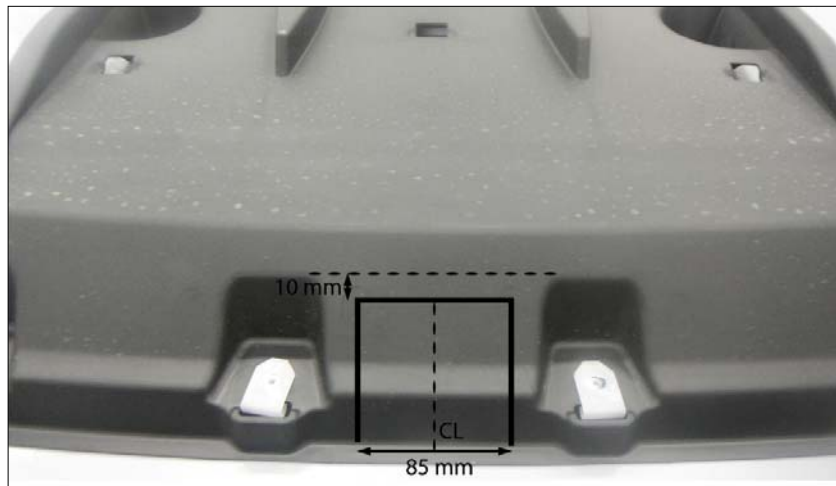

Figure 3 - Undercover cut
3. Remove & discard the impact beam. NOTE: Please retain the nuts shown in figure 3 used to mount the impact beam as they are to be used to fit the Rear Panel bracket as shown in drawing of Towbar.
14. If fitted, trim the undercover as per figure 3.